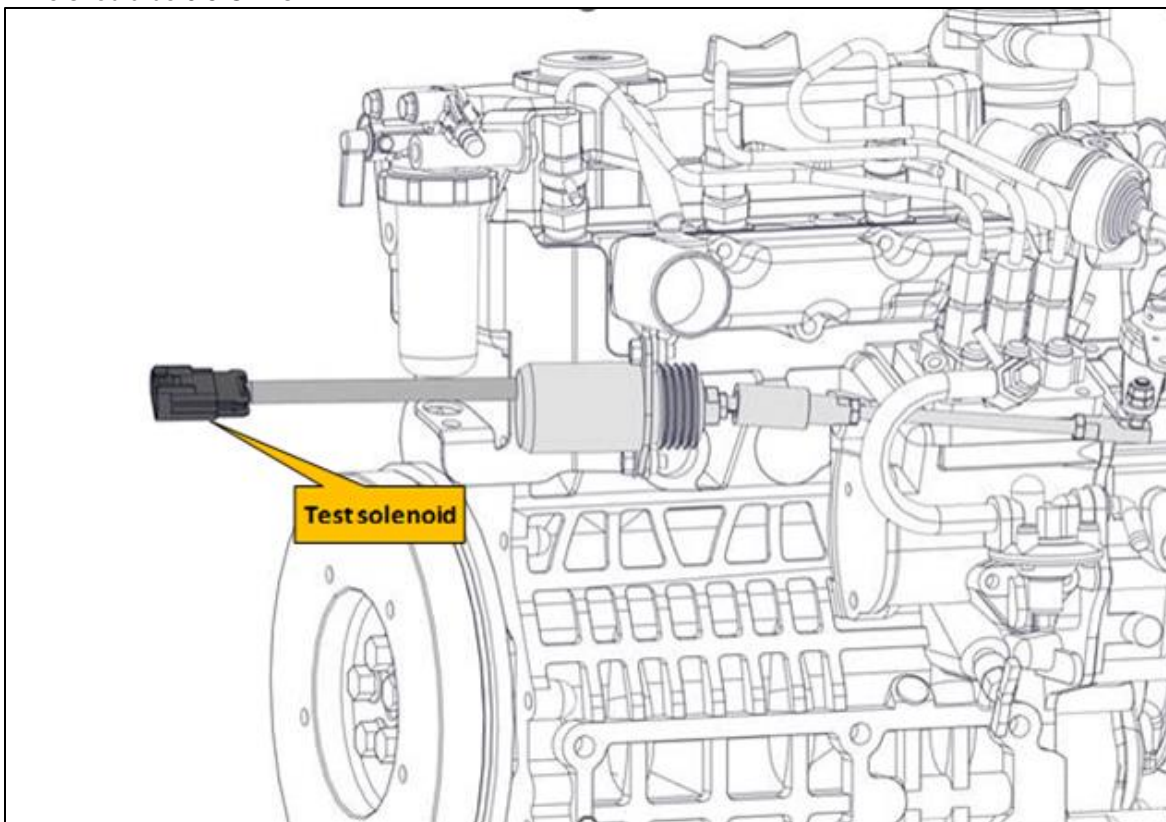

Figure 3
- ☐ Test the throttle solenoid (Figure 3).